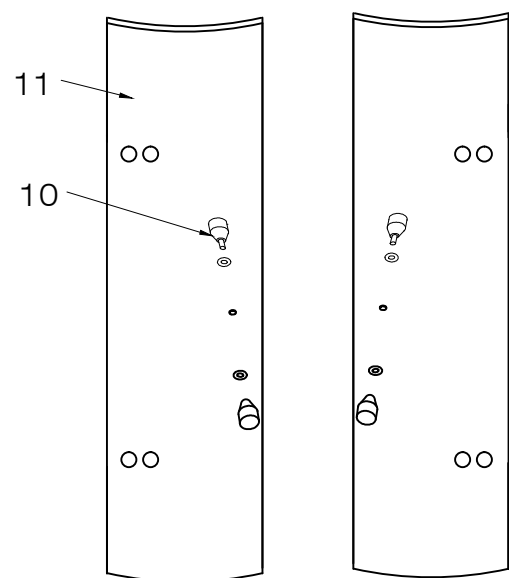

FIG.10
1. Assemble the door handles (#10) to the door (#11) as shown. [SEE FIG.10]